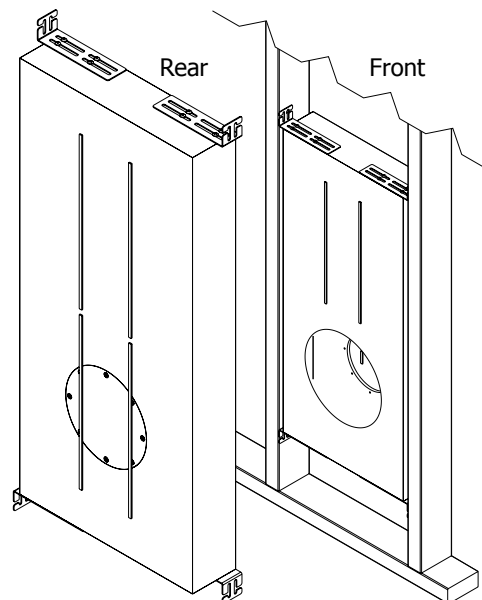

Fig. 3
8. Attach foam strips to the front and back of the enclosure by removing the protective backing from the adhesive side and pressing onto the enclosure. The exact placement is not critical but should be in the approximate regions shown in Fig. 3.